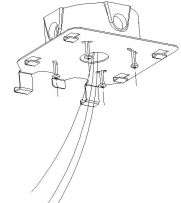

Figure 5
- Feed the incoming power wires from the junction box through the center hole in the mounting plate. Then, attach the mounting plate to the junction box using appropriate fasteners (see Figure 5).